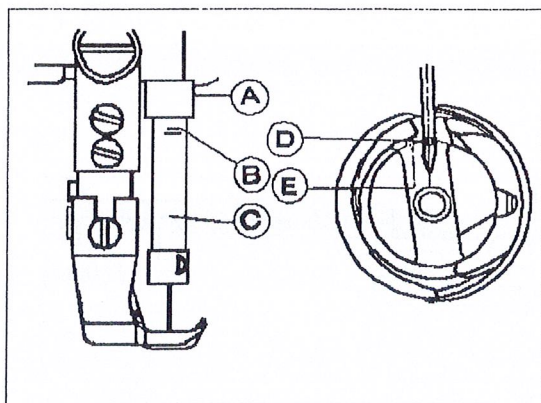

Fig. 18
5) After the adjustment, tighten Set Screw ( B ) and put in the rubber plug. The standard needle timing ( See Fig.18 ) is to align Timing Mark ( B ) on the needle bar and the bottom of Needle Bar Bushing ( A ) and